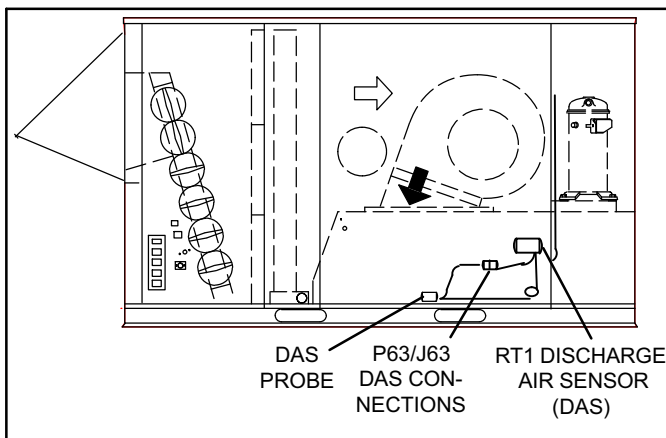
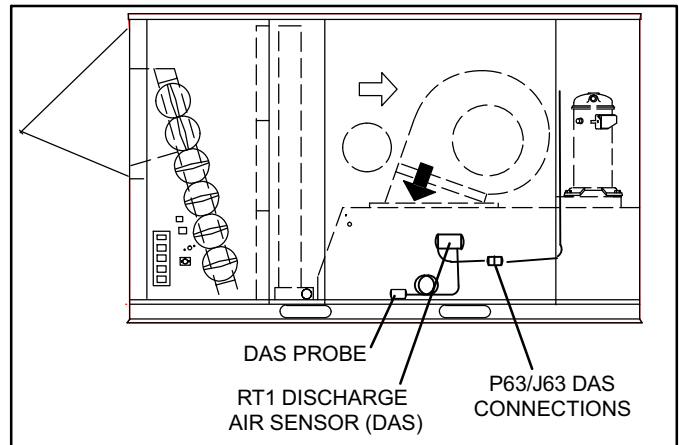

Figure 10. RT1 Discharge Air Sensor (036, 060 Units)
Figure 11. RT1 Discharge Air Sensor (120, 240 Units)
1. Insert discharge air sensor probe into knockout as shown in figure 10 (036, 060 units) or figure 11 (120, 240 units). Secure with two screws provided.